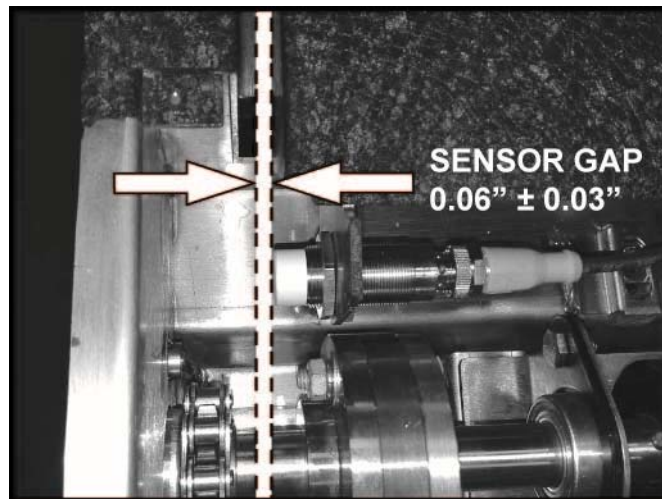

FIGURE 2-24: SENSOR GAP ADJUSTMENT (LH SIDE SHOWN)
- b. Refer to **Figure 2-24**. Loosen jam nuts on sensor body. Adjust position of both nuts to achieve a gap between nose of sensor and outside diameter of target that is $0.06'' \pm 0.03''$ (gap is set on inside of ramp tray barrier). Do not allow sensor to contact target. Tighten jam nuts and recheck gap.